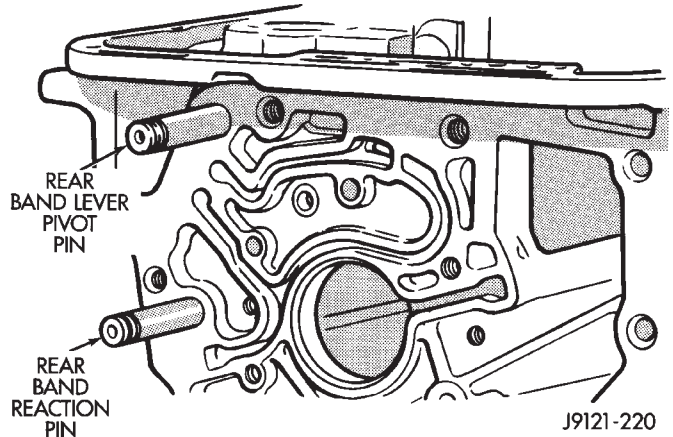
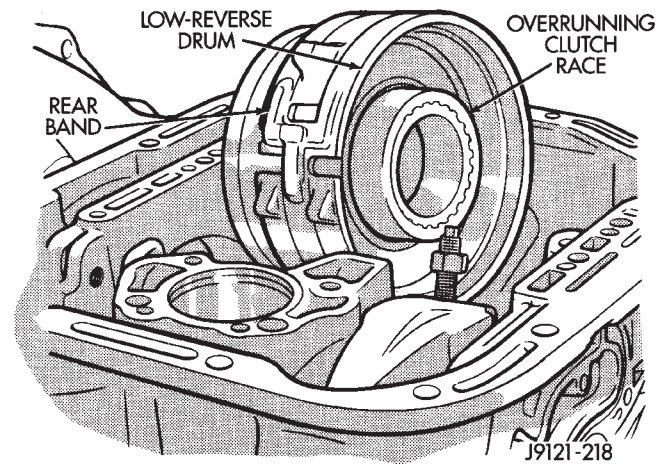

Fig. 147 Rear Band And Lever Pin Location
Fig. 148 Low-Reverse Drum And Rear Band Removal
(38) Remove rear band pivot and reaction pins (Fig. 147). Use parallel jaw snap ring pliers to remove pins. Insert and spread plier jaws in pin bore to grip pin. Then twist and pull pins to remove them.
(39) Remove rear band lever.
(40) Remove low-reverse drum and rear band as assembly. Turn drum clockwise and pull outward to remove it from overrunning clutch (Fig. 148).